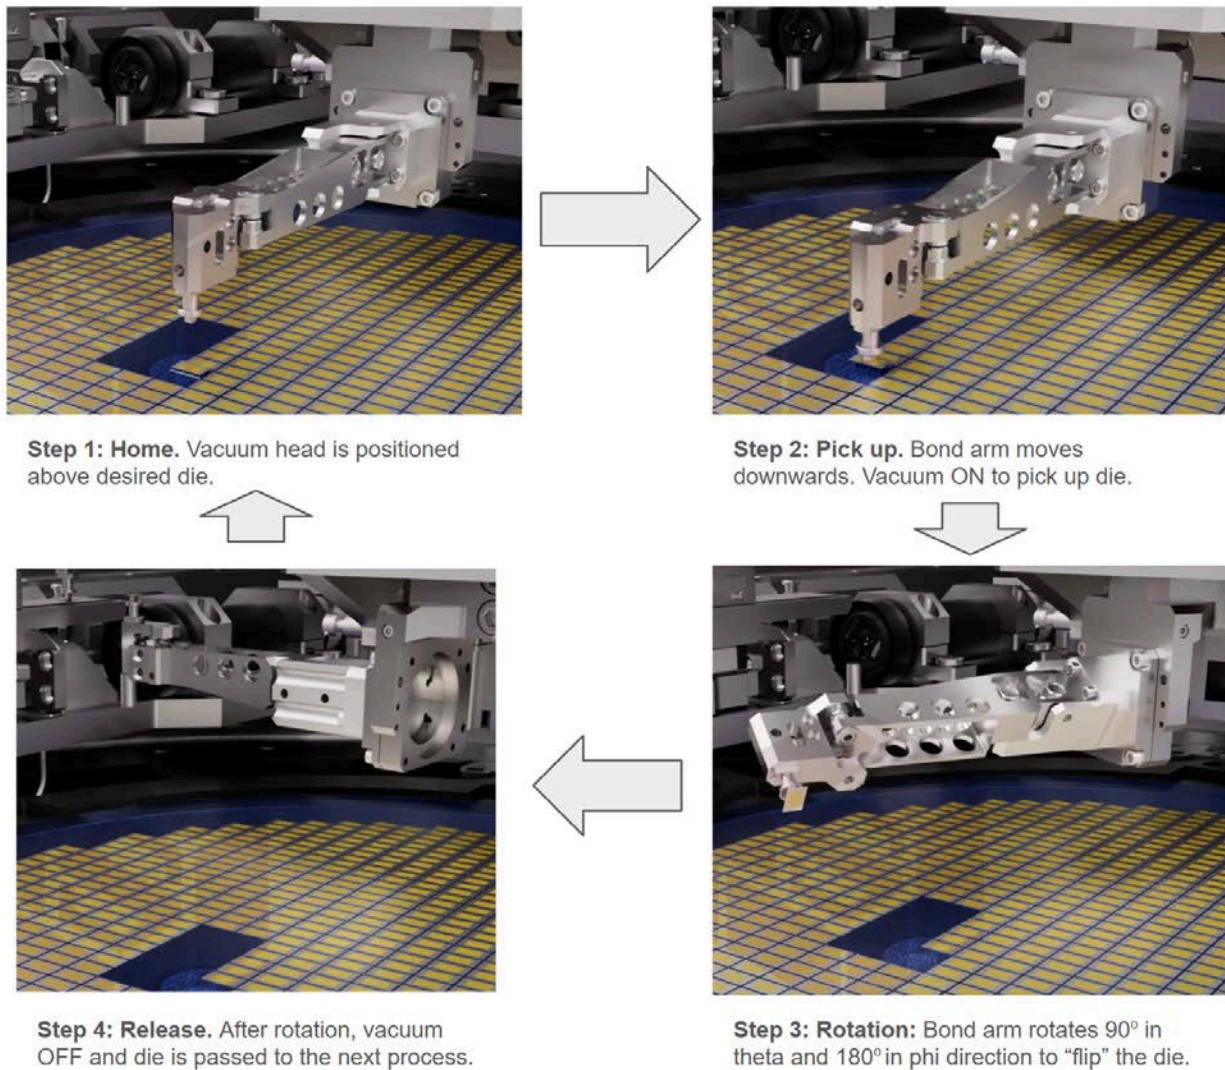

Figure 2. Schematic of the flip chip transfer process.
The **flip chip transfer process**, shown in **Figure 2**, includes a **vacuum head** that picks up singulated MicroLEDs, a **bond arm** that moves and positions the dies, and **rotating motors** that provide the necessary degrees of freedom for alignment. The MicroLED die is then flipped and bonded such that its top-side contacts align with the interconnects on the top of the transistor matrix.
- ii) It takes 60 milliseconds (0.06 s) to complete a pick-and-place sequence (shown in Fig. 2) of a single die. How long would it take for a pick-and-place machine to assemble a single display? **2 pts, 1 pt for approach, 1 pt for right answer**